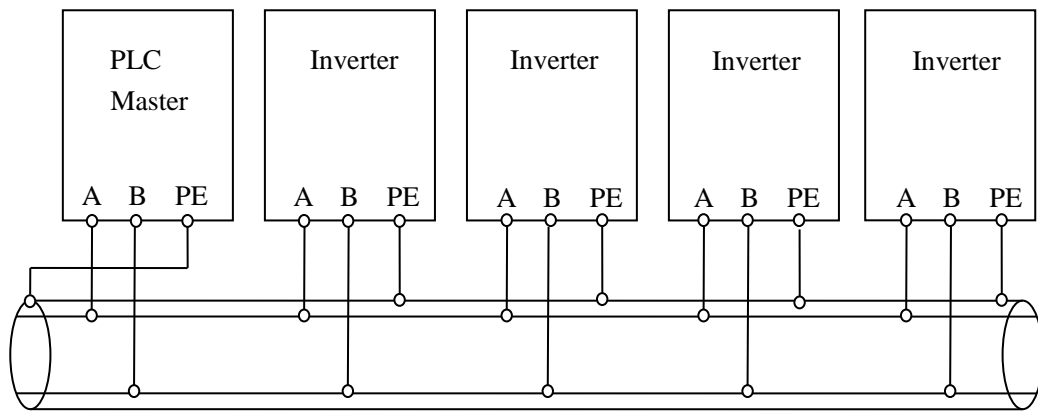
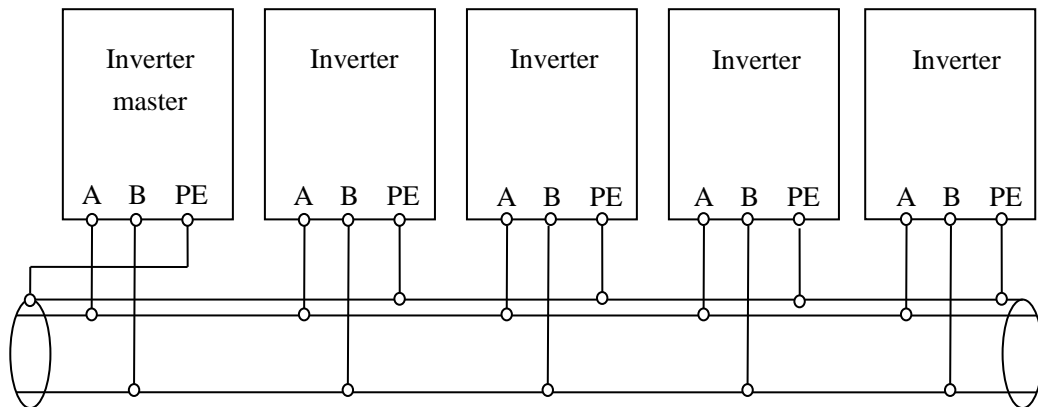

Fig. 2-9 Connection of PLC and inverters
Fig. 2-10 Connection of several inverters
- Many inverters can be connected together through RS485, the PLC(or PC) is the master device, as shown in Fig.2-9; Also, you can select one inveter as master and the other inverters are slaves, as shown in Fig.2-10.The more inverters are connected, the communication system will be interfered seriously, the following wiring is recommended.